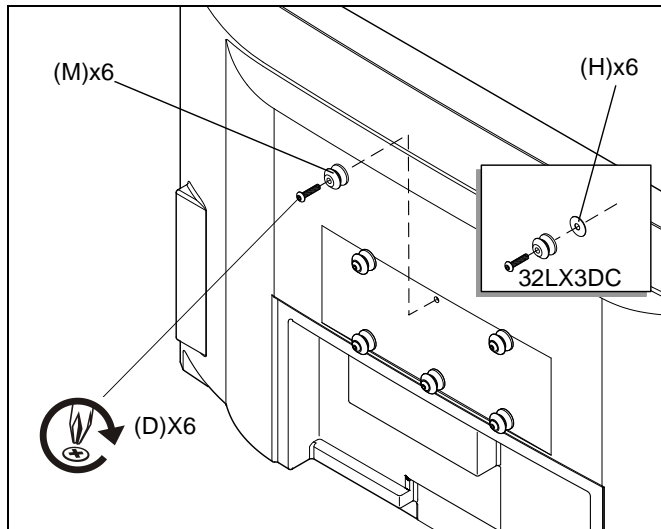

Figure 3
5. Install six mounting buttons to back of display using six M4 x 25mm Phillips button head machine screws. (See Figure 3)
NOTE: If mount is being used with an LG Model 32LX3DC display, it is necessary to install six spacers (provided) between each mounting button and the back of display. (See Figure 3)